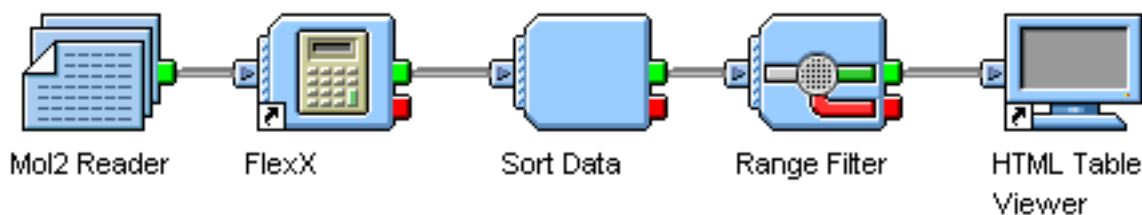

Figure 2.2: Starting example for virtual high throughput screening.
7. Finally add a viewer or a writer component to view and/or save your results. Your pipeline may look like the example in figure 2.2. Change the workflow to your needs and, for example, try out some more detailed analysis.